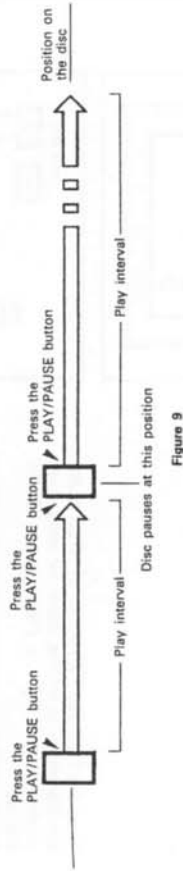

Figure 9
- (5) **Description of the PLAY/PAUSE, and CUE Operations**
- The steps through which disc play is performed when the PLAY/PAUSE and CUE buttons are pressed are described with the aid of the following illustrations in Figures 9 through 11.
Pressing the PLAY/PAUSE button starts the disc play, the advancement of which is illustrated by the arrows of Figure 9. Pressing the PLAY/PAUSE button again during disc play causes the play operation to pause, and pressing this button once more causes the disc to be played again.